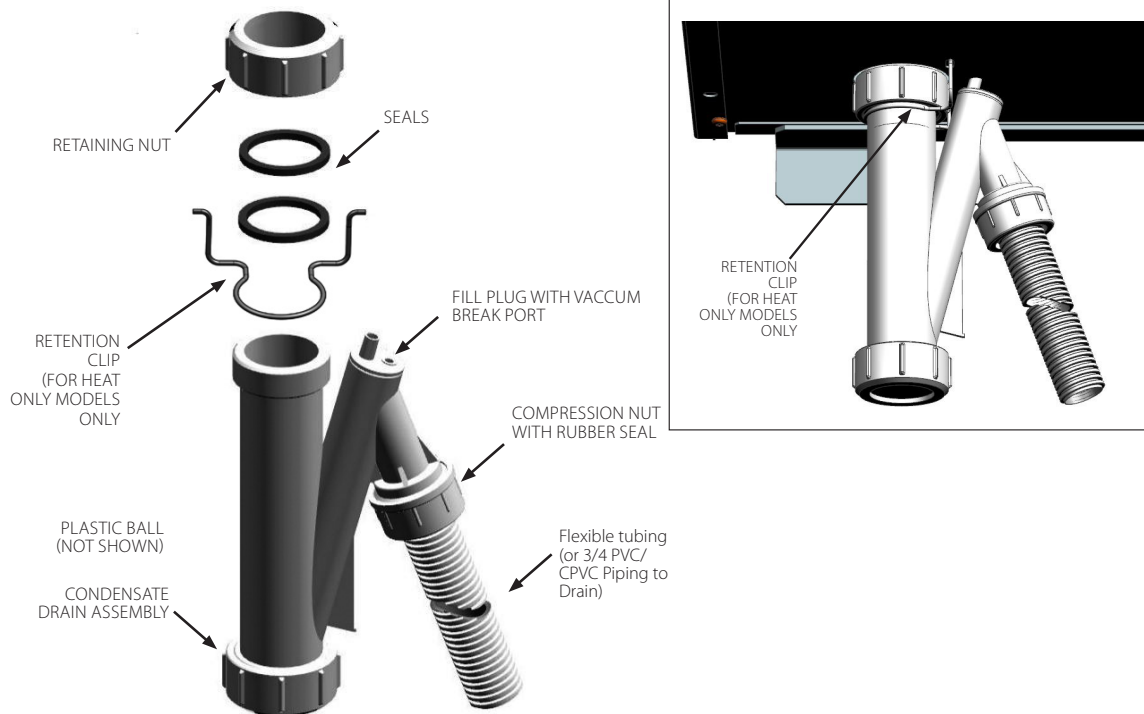

Fig. 14 - Condensate Drain Assembly
1. Locate the condensate drain assembly and ensure the seals are installed as shown in *Fig. 14 on page 28*.